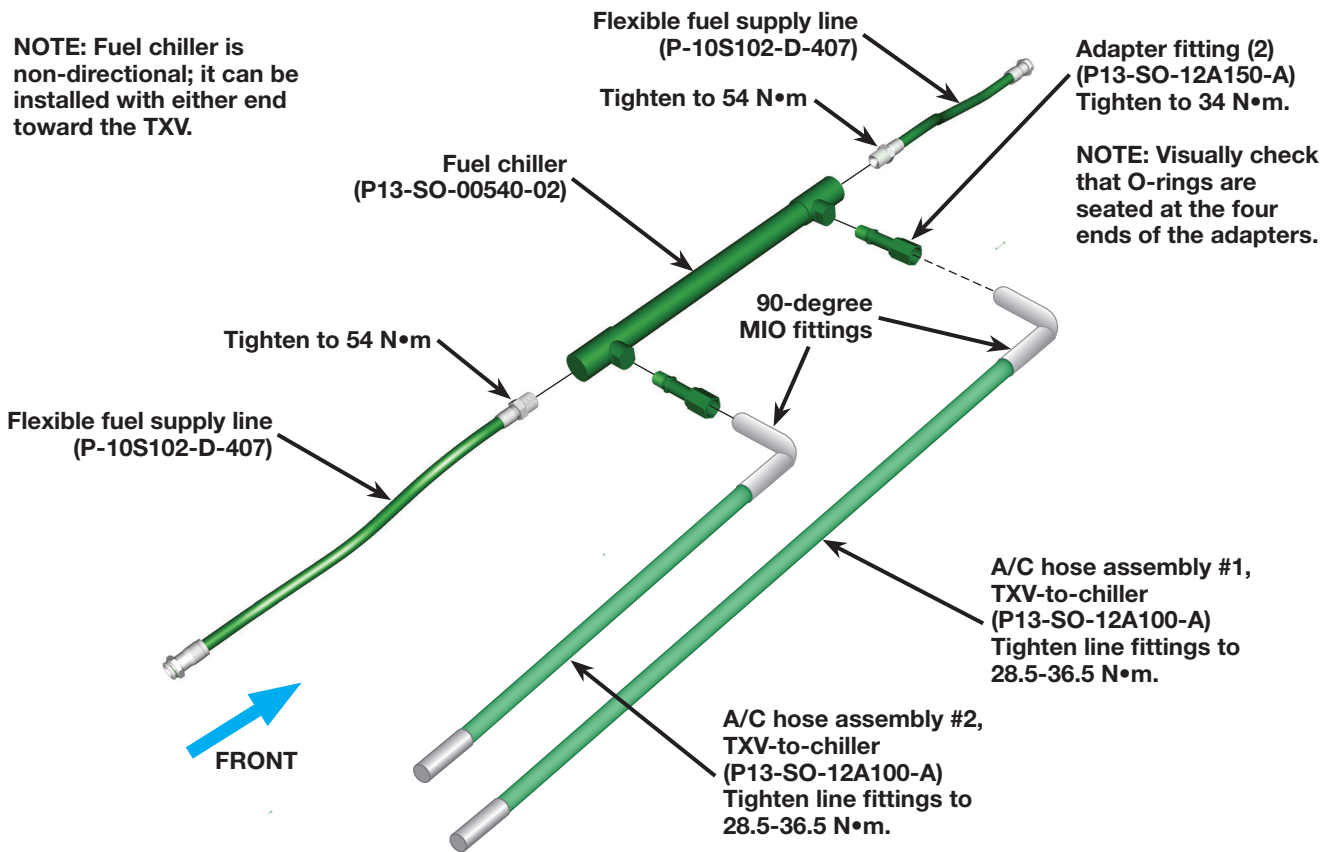

Figure 11 – Fuel Chiller and A/C Line Assembly
3. Connect the 90-degree MIO fitting of the A/C hose assembly #1, P13-SO-12A100-A, -8 hose to the fuel chiller port on the right with the hose leading off to the left (**Figure 11**). Tighten the fitting to 28.5-36.5 N•m.
4. Connect the 90-degree MIO fitting of A/C hose assembly #2, P13-SO-12A100-B, -8 hose to the fuel chiller port on the left with the hose leading off to the left (**Figure 11**). Tighten the fitting to 28.5-36.5 N•m.